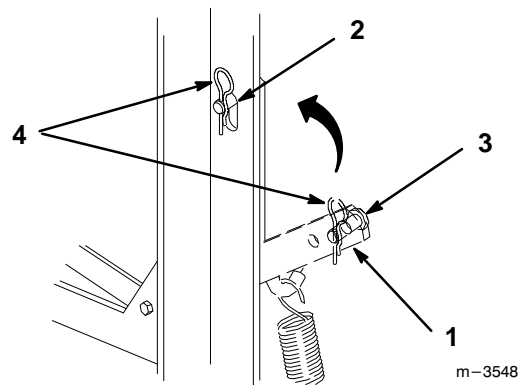

Figure 6
2. Remove hairpin cotter and clevis pin from idler arm (Fig. 6).
3. Push up on the spring loaded idler arm, behind PTO (power take off) gearbox, to relax pressure on blower belt (Fig. 6).